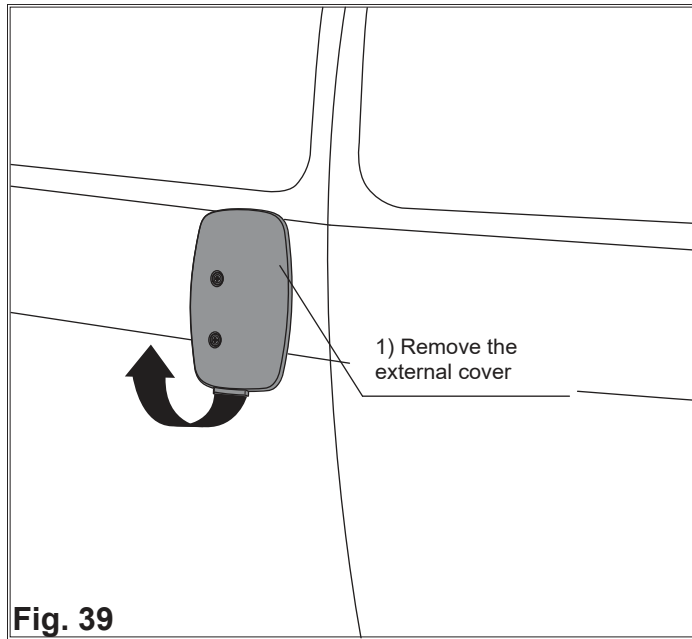

Fig. 39
1. Remove the cover, if present, (Fig. 39).